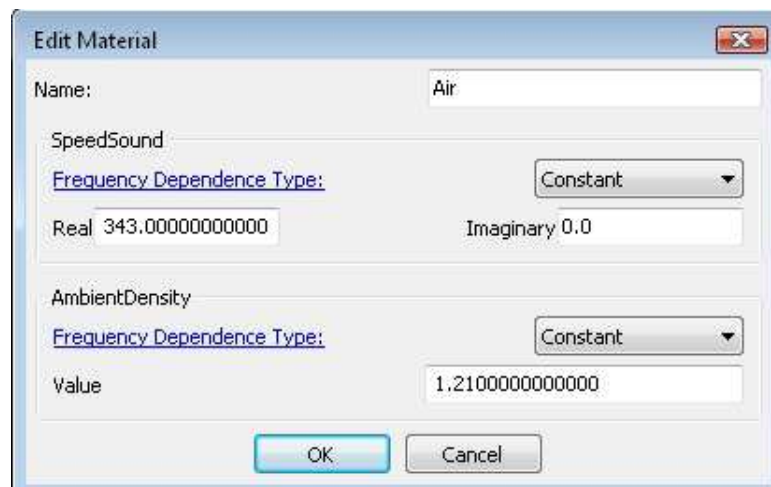

Figure 9.38: Edit material properties.
- In the main model menu select: **Model** → **Materials** → **Air**. Right-click on **Air** and select **Edit...** Figure 9.38 will appear.